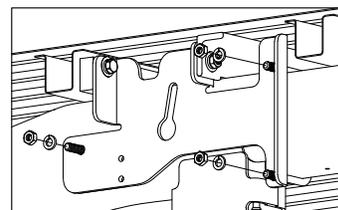

Figure C8: View from outside of Driver Side Frame.
- 5. Install U-Bolt.** Install the U-bolts from inside the frame. Place the U-bolt against the frame staying under the wiring harness and brake line. While making certain that nothing is between the frame and U-bolt, raise the U-bolt until the top leg is level with the top of the frame rail. Then turn the legs toward the outside so that the U-bolt straddles the frame and the legs pass through the two holes in the sideplate. Attach the carriage bolt and U-bolt with 1/2" hardware, as shown in figure C8. (Do not tighten hardware at this time.)